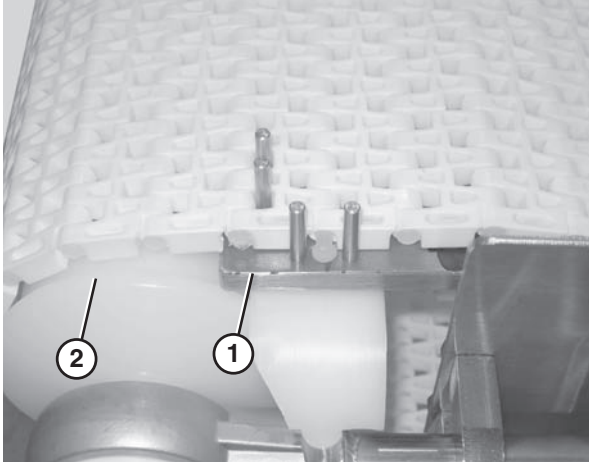

Figure 58
2. Secure the retaining head side of the belt. Use the belt removal tool (Figure 58, item 1) for 1" pitch belts. For all other belts, position the section of belt so that it is braced by the flanged puck (Figure 58, item 2).